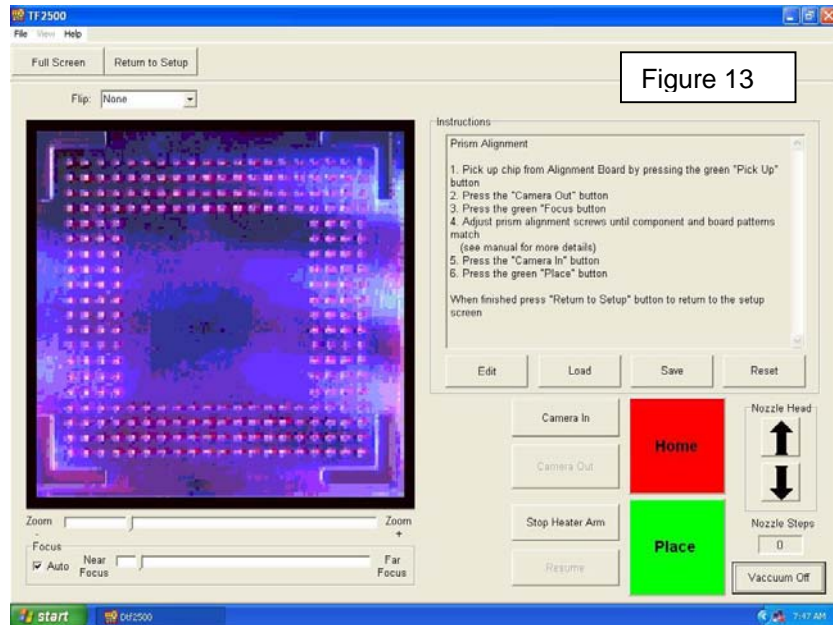

Figure 13
- x. Image in the window should be aligned like figure 13.